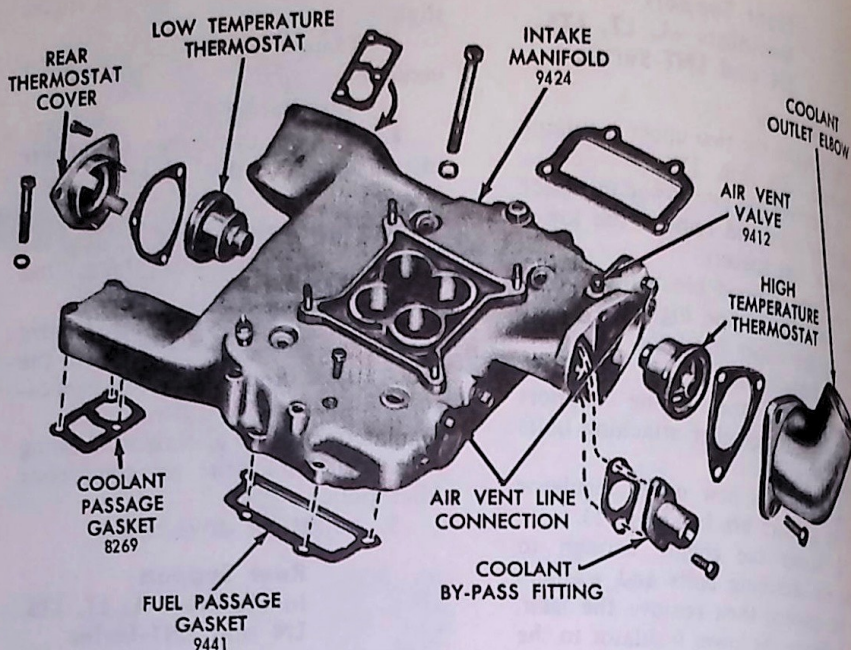

FIG. 8 Intake Manifold Assembly
- The intake manifold assembly is shown in Fig. 8.